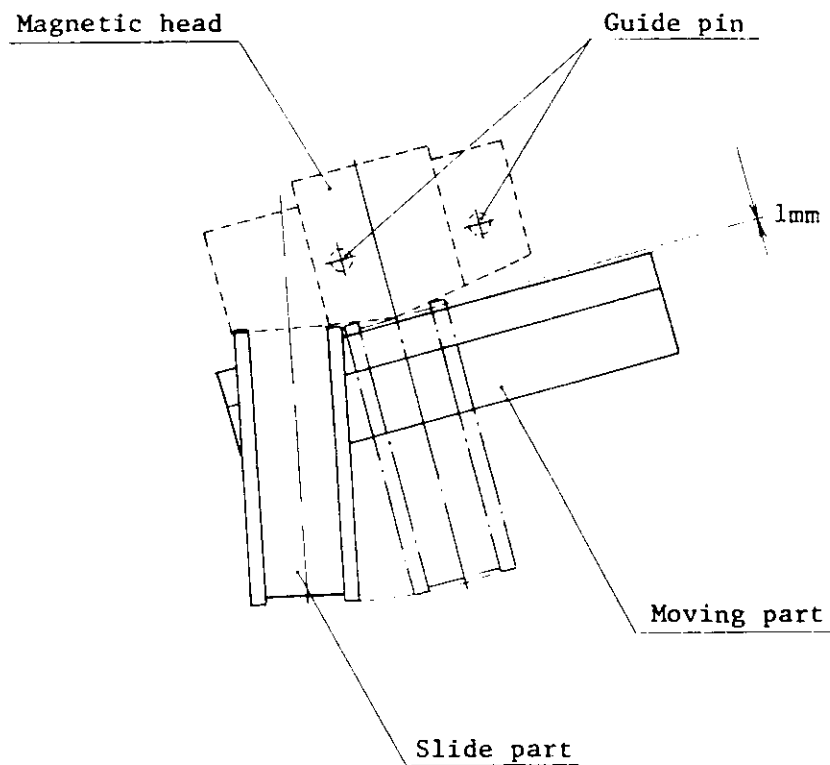

Figure K.33 Magnetic head and autocleaner
- (1) The autocleaner can be positioned with the guide pins on the magnetic head, as shown in Figure K.33.
- (2) Check that the ribbon is taut and is properly mounted on the ribbon guide and slide part.
- (3) If ribbon is loose, depress the load button after turning the power on. When the motor turns automatically, the sag is eliminated.